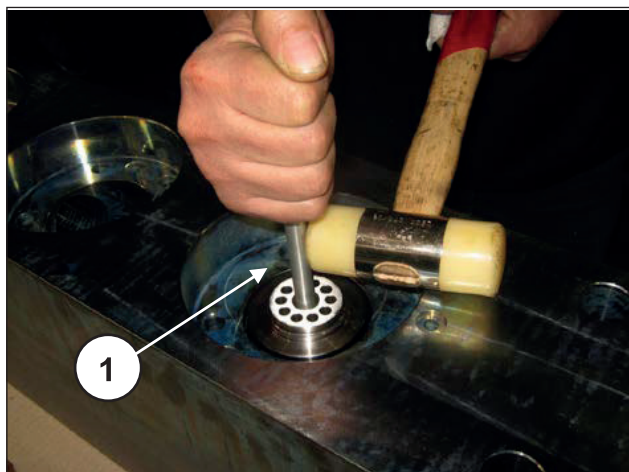

Fig. 177
If the valve seats are blocked on the head due to the formation of scale or oxide, they must be freed by inserting an aluminum or plastic pin in the outlet hole (pos. ①, Fig. 177).